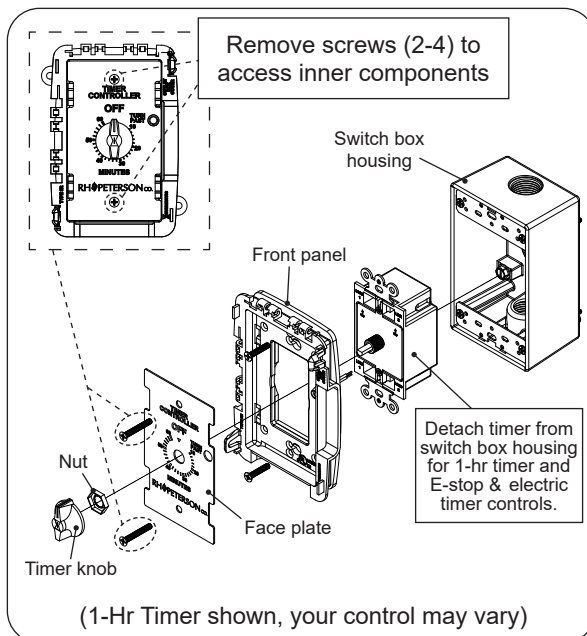

Fig. 3-1 Remove control screws
3. Using a Phillips-head screwdriver, remove the two screws and separate the inner components from the switch box, leaving only the switch box housing. See Fig. 3-1.